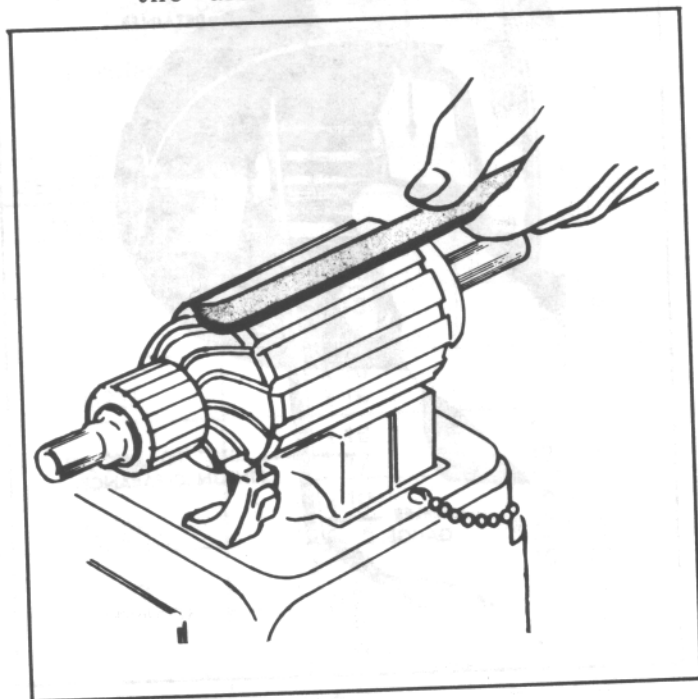

Fig. 139. Checking the Armature for Short Circuits.
- (a) Short circuits are located by rotating the armature in a growler with a steel strip such as a hacksaw blade held on the armature (Fig. 139). The steel strip will vibrate on the area of the short circuit. Shorts